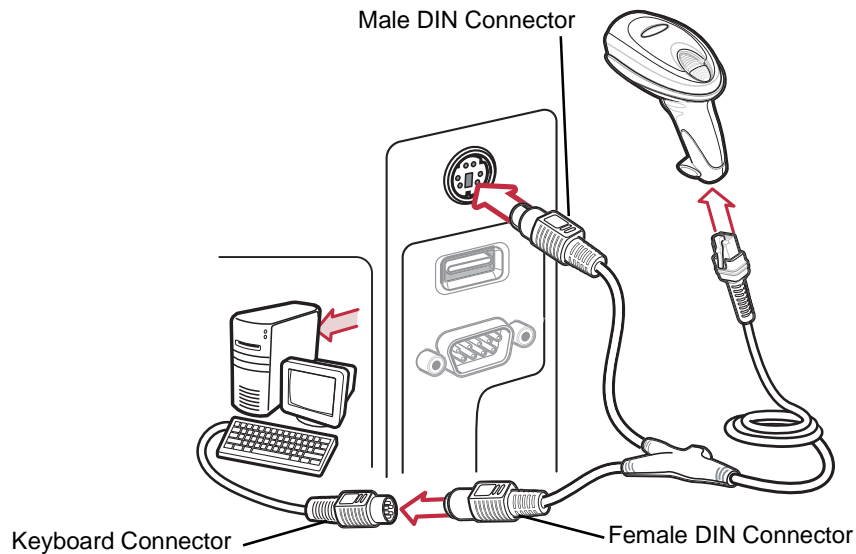
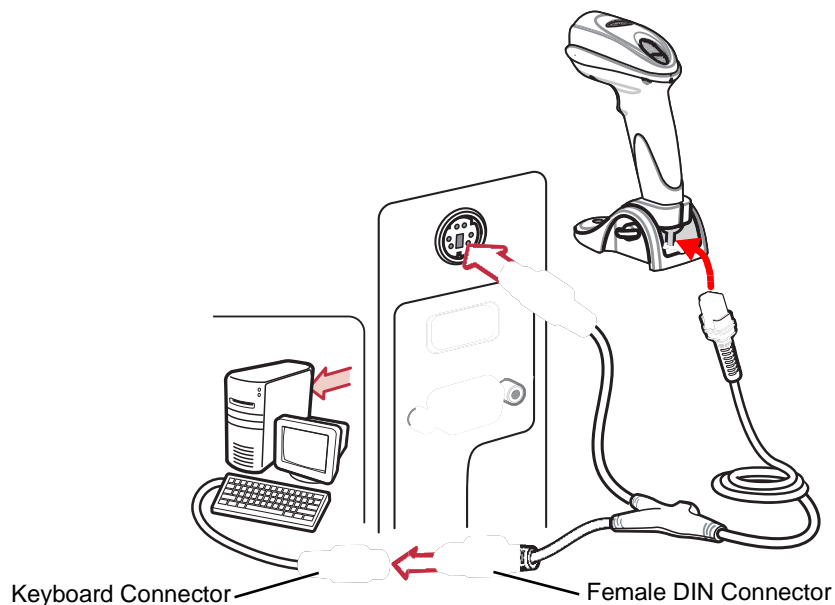

Figure 10-1 Keyboard Wedge Connection with Y-cable
Figure 10-2 Keyboard Wedge Connection with Y-cable for Scanner with Base
- ✓ **NOTE** Interface cables vary depending on configuration. The connectors illustrated in Figure 10-1 and Figure 10-2 are examples only. The connectors may be different than those illustrated, but the steps to connect the scanner are the same